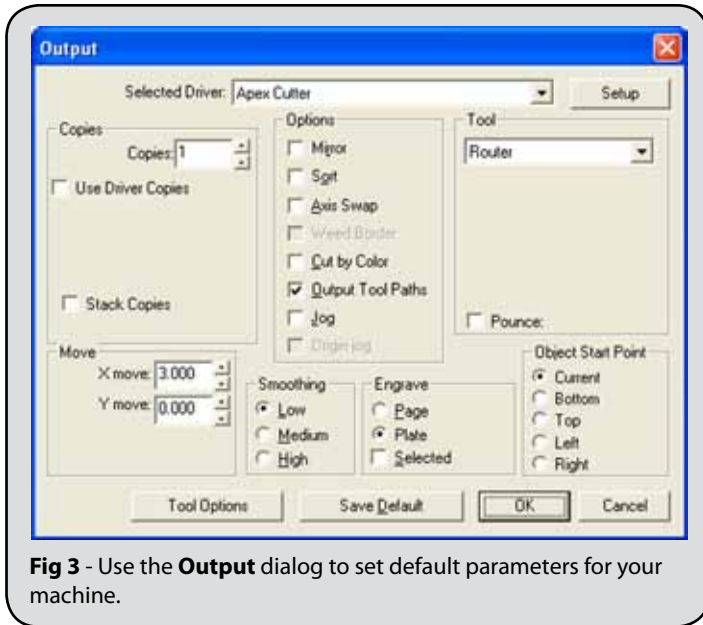

Fig 3 - Use the **Output** dialog to set default parameters for your machine.
3. From the **Engrave** menu, choose **Engraving Defaults**. The **Output** dialog will open. (Fig. 3)